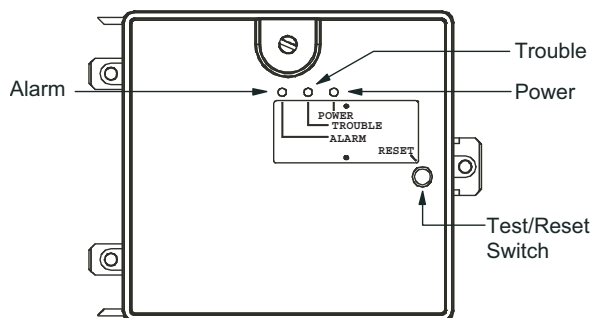

Fig. 51 — Controller Assembly
- The contacts on the controller's supervisory relay switch positions. (See Fig. 51.)